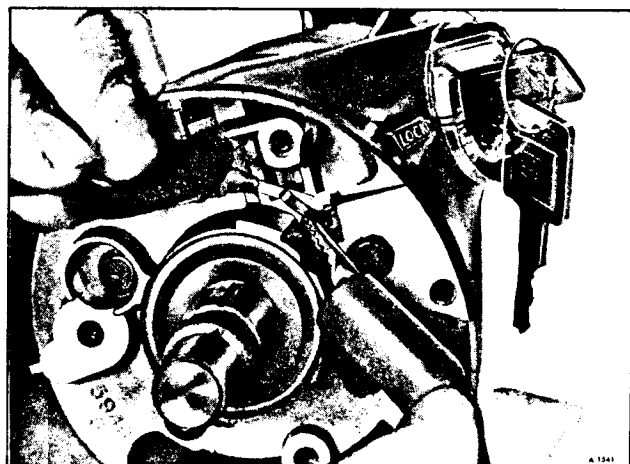

Figure 59—Checking Buzzer Switch Continuity
**NOTE 3:** If the fault has not yet been isolated and repaired, connect a continuity meter to the buzzer switch probes (figure 59). Fully insert and remove the key from the lock cylinder.